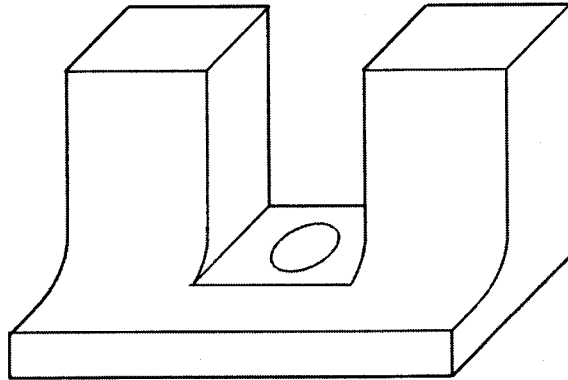

Figure 6
- 10 Sketch in third angle projection the three orthographic views of the block shown in **Figure 6**.